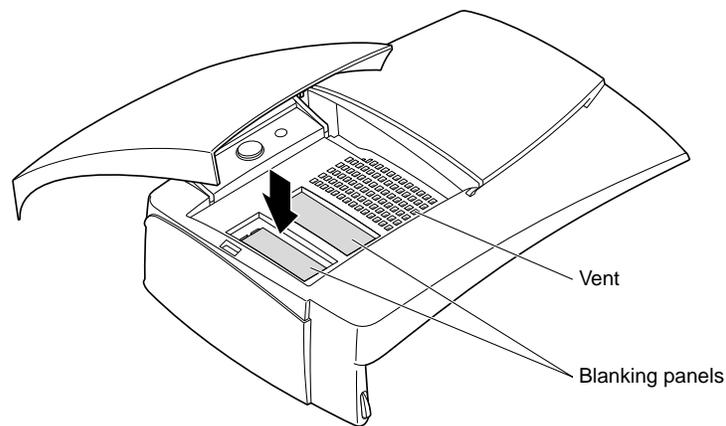

Figure 7-10 Releasing the Blank Panel
4. Press down on the blank panel covering the desired drive bay, as shown in Figure 7-10.